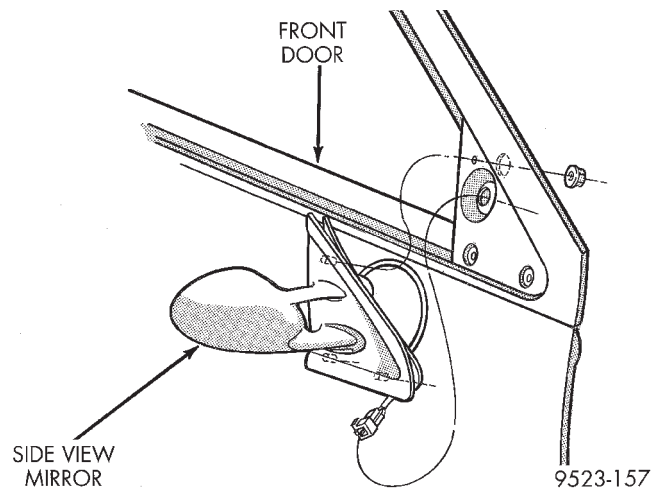

Fig. 20 Side View Mirror
- (1) Remove side view mirror bezel.
- (2) Disengage power mirror wire connector from door harness, if so equipped.
- (3) Disengage push-in fastener holding power mirror wire lead to inner door panel.
- (4) Remove nuts holding side view mirror to door frame (Fig. 20).
- (5) Separate side view mirror from door.